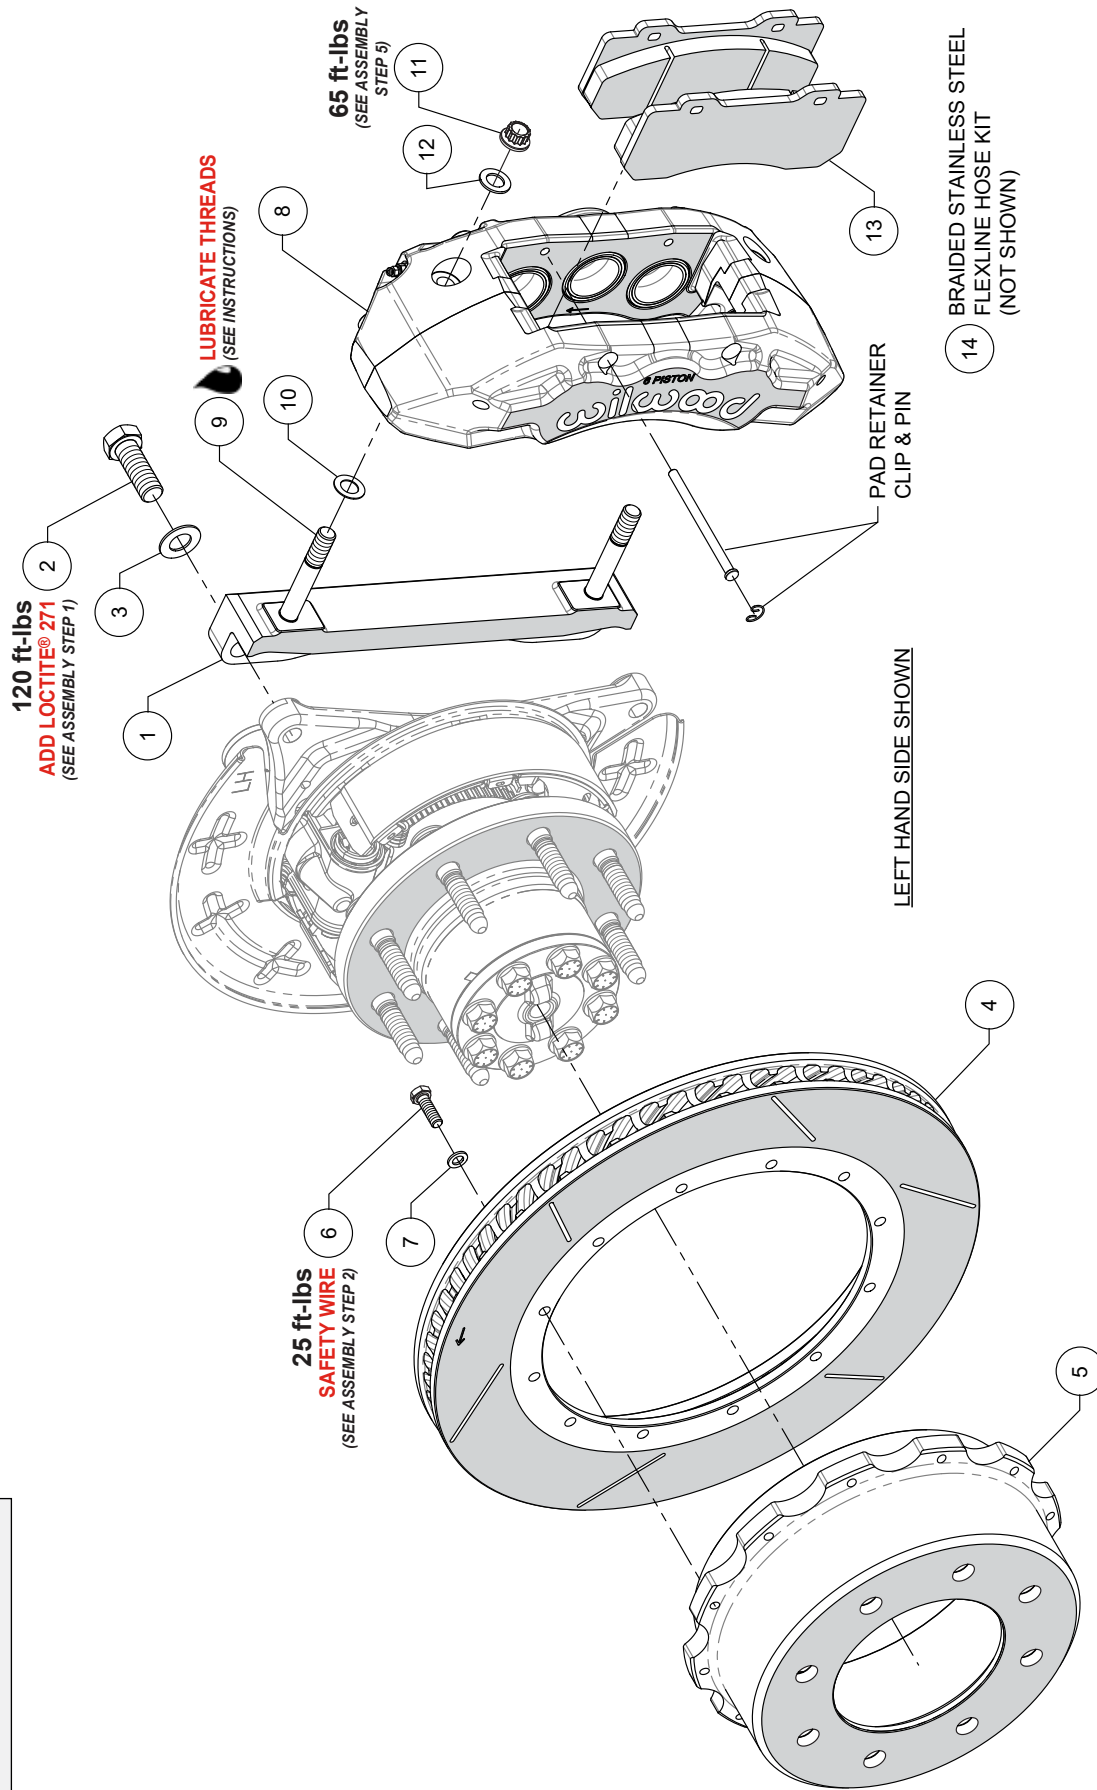

Figure 1. Typical Installation Configuration
Numbers in parenthesis refer to the parts list and Figure 1 on the preceding pages.
STEP 1 The caliper mount bracket (1) should initially be installed with clean, dry threads on the mounting bolts. Orient the bracket as shown in Figure 1 and Photo 1, and install using bolts (2) and washers (3). Temporarily tighten the mounting bolts. **NOTE:** *The bracket must fit squarely against the mount bosses on the upright.* Inspect for interference from casting irregularities, machining ridges, burrs, etc. Once the bracket alignment has been checked, remove the bracket mounting bolts (2) one at a time, apply red Loctite® 271 to the threads, and torque to value shown in Figure 1.
STEP 2 Orient the rotor (4) and the hat (5) as shown in Figure 1 and Photo 2. Attach rotor to hat using bolts (6) and washers (7). Torque bolts to value shown in Figure 1 using a criss-cross pattern. The bolts must be safety wired using standard 0.032 inch diameter stainless steel safety wire as shown in Figure 3. Please refer to Wilwood's data sheet DS-386 (available at www.wilwood.com/Pdf/DataSheets/ds386.pdf) for complete safety wire installation instructions.
STEP 4 Lubricate the caliper mounting studs (9) with lightweight oil. Initially place one .032" thick shim (10) on each stud between the caliper and the bracket, as shown in Figure 1 and Photo 4. Mount the caliper (8) onto the bracket (1) using lock nuts (11) and washers (12), Figure 1. Temporarily tighten the lock nuts.
STEP 5 Remove the two pad retaining pins from the caliper by carefully popping out the pin retaining clips and sliding out the pins. Insert the brake pads (13) into the caliper, with the friction material facing the rotor, as shown in Photo 5 and secure the brake pads in place with the pad retaining pins and clips. Check that the top of the brake pad is flush with the outside diameter of the rotor, Photo 6. If not, adjust by adding or subtracting shims (10) between the caliper and the bracket. After the caliper pad height is set, torque the caliper lock nuts (11) to value shown in Figure 1.